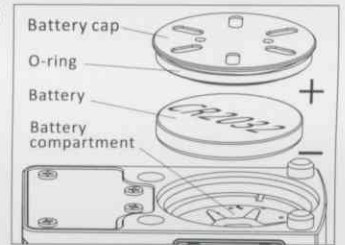

Fig 3-3
- 2) Unscrew the battery cap using Special Spanner (Fig 3-2) according to (Fig 3-3)
- 4) Tighten the battery cap using Special Spanner (Fig 3-2) according to (Fig 3-3)